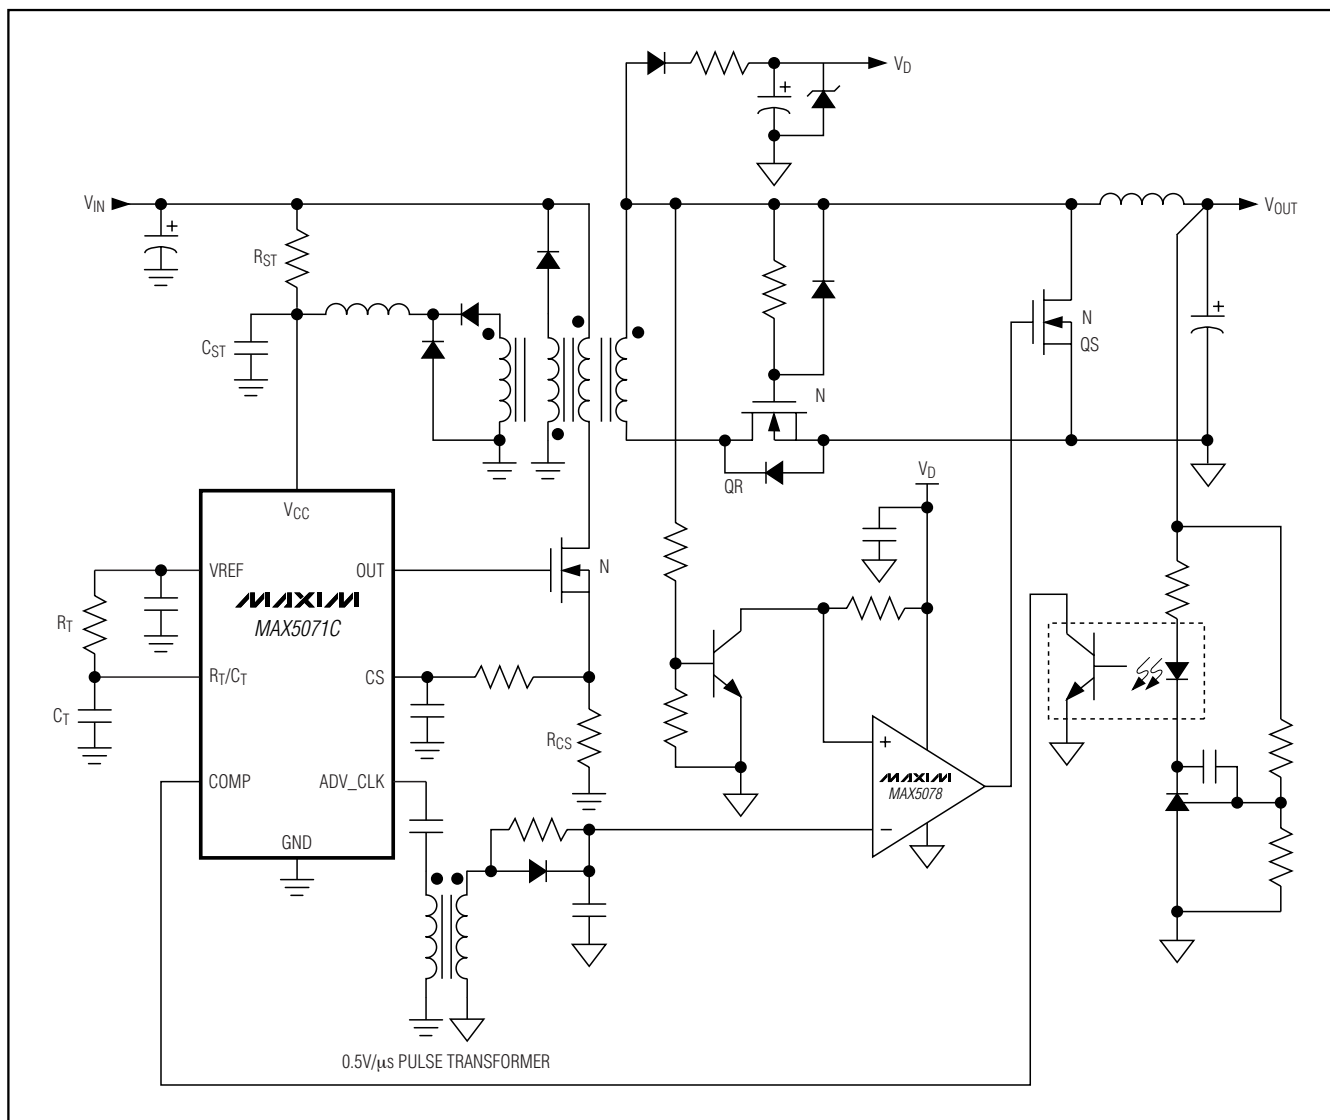

Figure 8. MAX5071C Typical Application Circuit (Isolated Forward with Secondary-Side Synchronous Rectification)
ADV\_CLK is an advanced pulse output provided to facilitate the easy implementation of secondary-side synchronous rectification using the MAX5071C. The ADV\_CLK pulse width is 85ns (typically) with its rising edge leading the rising edge of OUT by 110ns. Use this leading pulse to turn off the secondary-side synchronous-rectifier MOSFET (QS) before the voltage appears on the secondary (see Figure 8). Turning off the secondary-side synchronous MOSFET earlier avoids the shorting of the secondary in the forward converter. The ADV\_CLK pulse can be propagated to the secondary side using a pulse transformer or high-speed optocoupler. The 85ns pulse, with 3V drive voltage (10mA source), significantly reduces the volt-second requirement of the pulse transformer and the advanced pulse alleviates the need for a high-speed optocoupler.